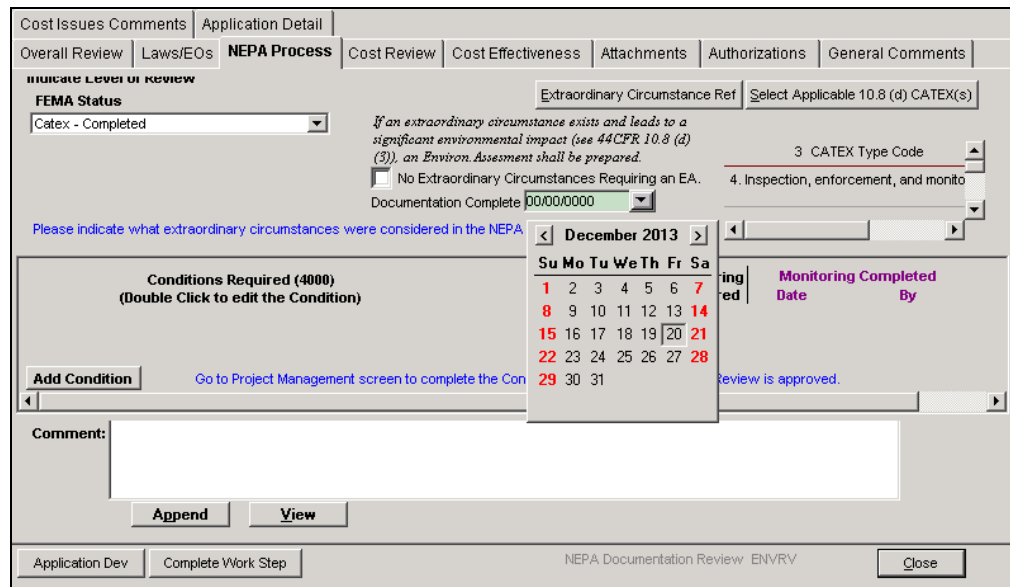

Figure 7-49: Calendar for Documentation Complete Date Field
- i. Enter the Documentation Complete date. Clicking the triangle displays a calendar where you can select the date to auto-fill the field (Figure 7-49).